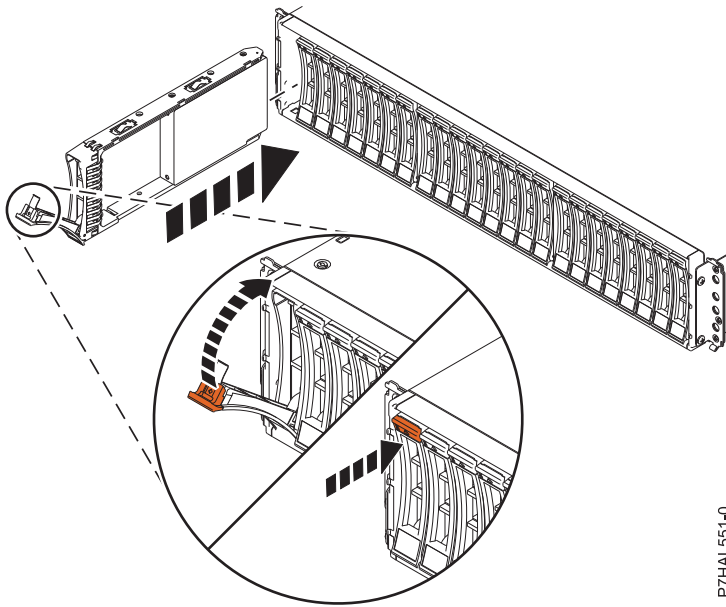

Figure 42. Installing the disk drive in the 5887
1. With the handle in the unlocked position, see Figure 42 on page 58, support the bottom of the disk unit as you align it with the guide rails in the expansion unit. Do not hold the disk unit solely by the handle.